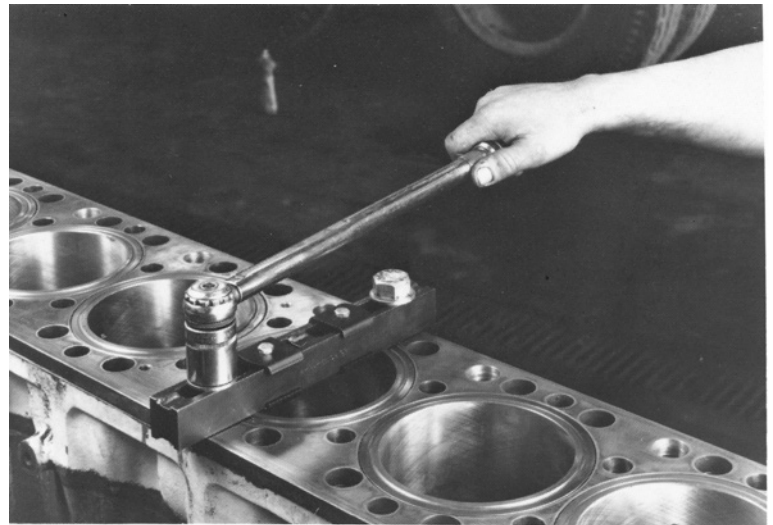

Figure 1
- Center the hold-down bar over the liner. See Figure 1.